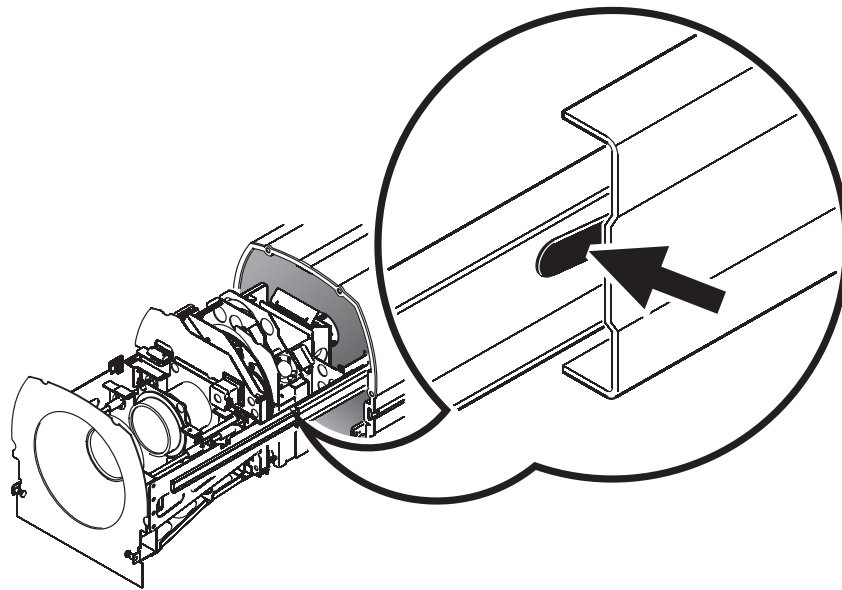

Figure 23: Slider removal lock
3. See Figure 23. Push on the two tabs (one must be pushed down, the other up) in the slider channels to release the slider complete with lamp/effects assembly. The assembly can now be removed completely from the luminaire.